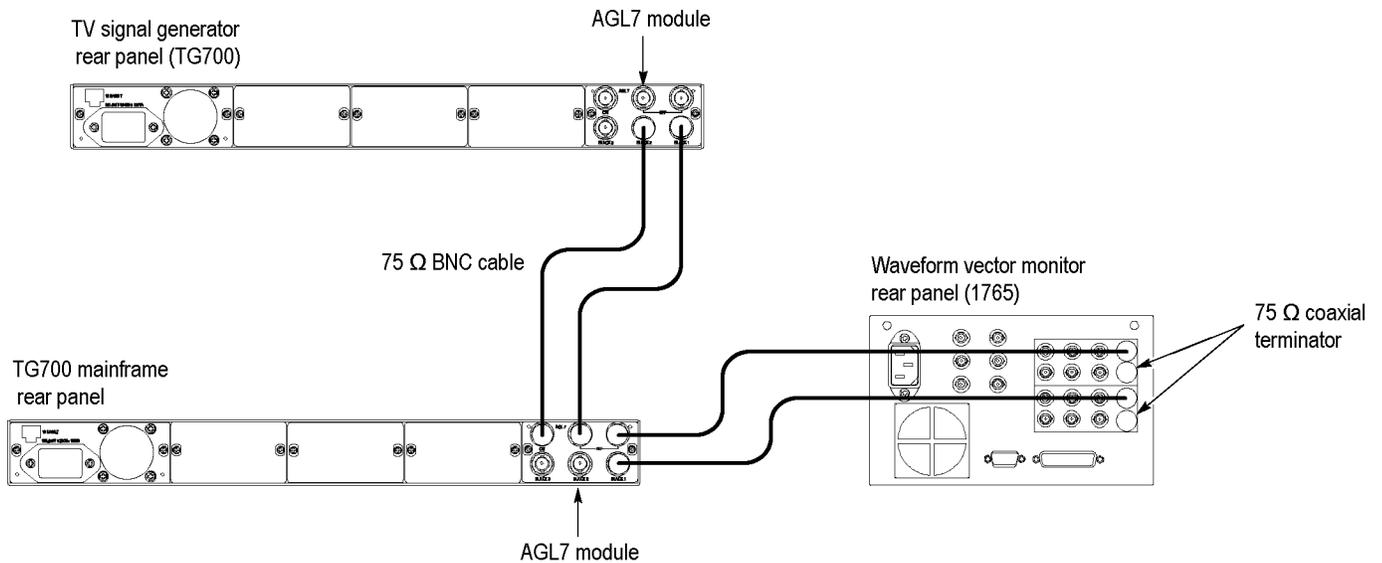

Figure 6: Equipment connections for verifying the genlock function
2. Use a 75 Ω BNC cable to connect the REF connector on the AGL7 Genlock module to the BLACK 1 connector on the TV signal generator (AGL7 module) as shown in the following figure. (See Figure 6.)
3. Use a 75 Ω BNC cable to connect the other REF connector on the AGL7 Genlock module to the A connector on the waveform vector monitor as shown in the following figure. (See Figure 6.)
4. Use a 75 Ω BNC cable to connect the BLACK 1 connector on the AGL7 Genlock module to the B connector on the waveform vector monitor rear panel as shown in the following figure. (See Figure 6.)